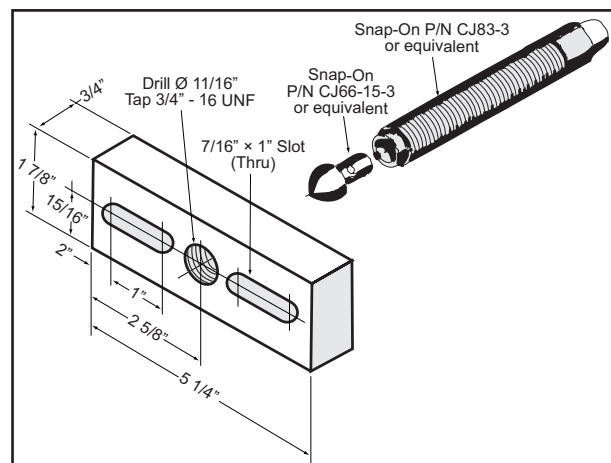

Figure 11 - Illustration of Bar Puller
9. Align timing marks, see Fig. 11 on timing gears [8].